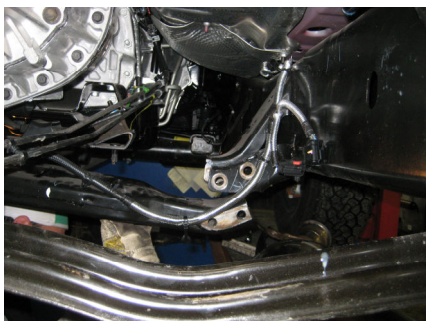

Figure 6
4. Reattach the transmission cross-member. **Refer to Figure 6.**